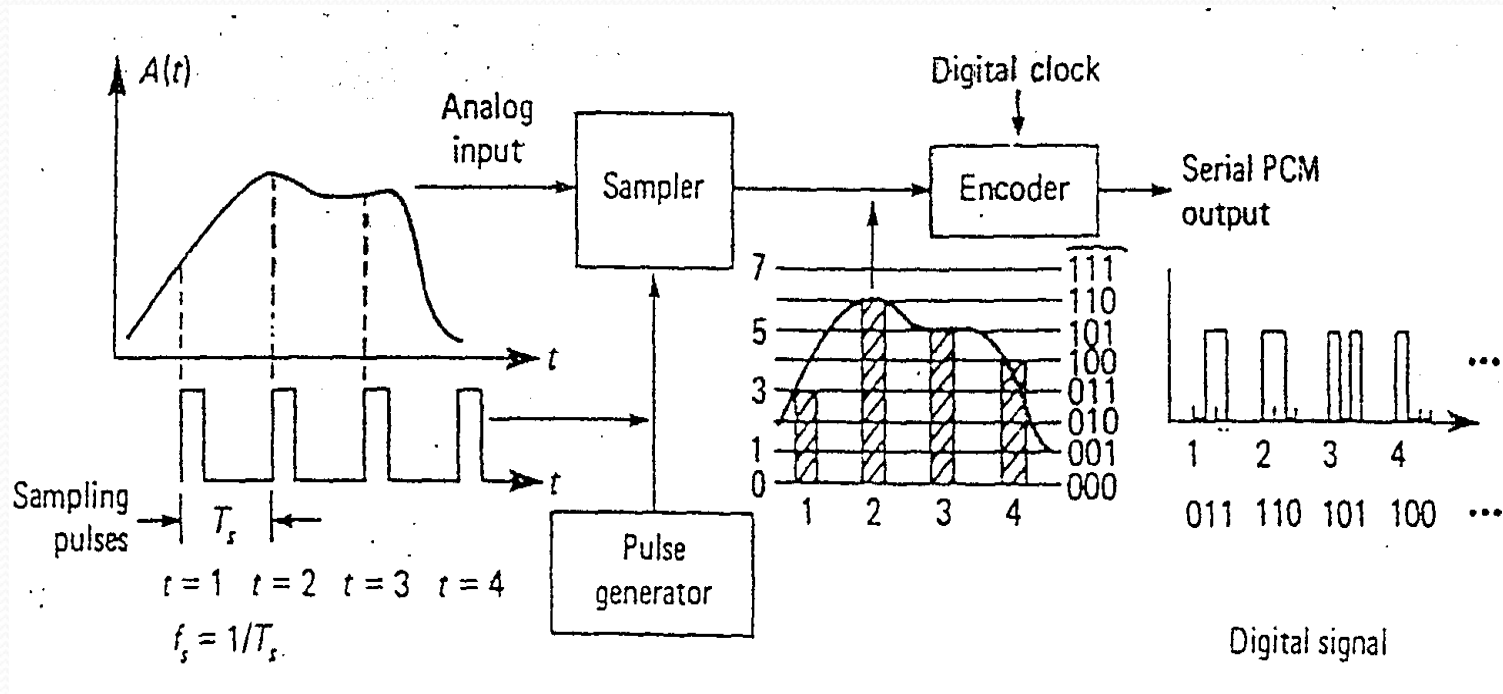

Figure 11-15. A 3-bit PCM system showing A/D conversion.
- A simple example to illustrate the pulse code modulation of an analog signal is shown in Figure 11-15.